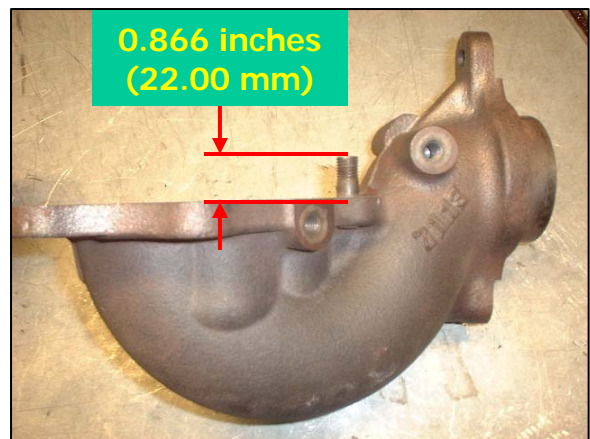

Fig. 35
37. Test-fit downpipe onto turbine housing with its OE gasket. The downpipe stud may or may not be too long to allow installation of the nut and washer. If the stud is too long, thread the nut all the way onto the stud, and cut the stud until 0.866 inches (22.00 mm) remains protruding from the downpipe. De-burr the freshly cut edge. Back the nut off completely to clean up remaining threads. See figure 35 (ruler or calipers, hacksaw or cutoff wheel, file or de-burring tool).